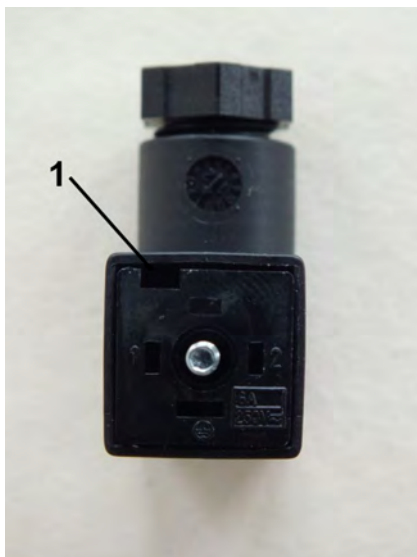

Fig. 24: Loosen inner section
3. ➤ Remove the inner section from the socket by inserting a flat-bladed screwdriver into the slot (Fig. 24/1) and carefully pry out the inner section.
7. ➔ Place the inner section (Fig. 24) back into the socket and push until it locks on